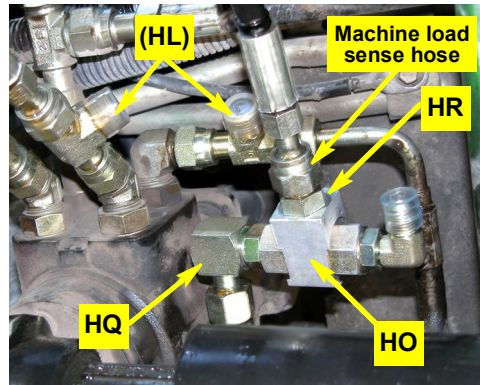

Figure 5b: Installed load sense shuttle valve. Machine's load sense hose reconnected.
- b. Locate the load sense port on the side of the steering orbital (Figure 4b). Remove the load sense hose and connect shuttle valve adapter **HQ** to the orbital fitting. Reconnect the machine's load sense hose to adapter **HR** in the shuttle's source port (Figure 5b).
Figure 5b shows steering run-tees **HL** already installed. You will install these run-tees at step 7.